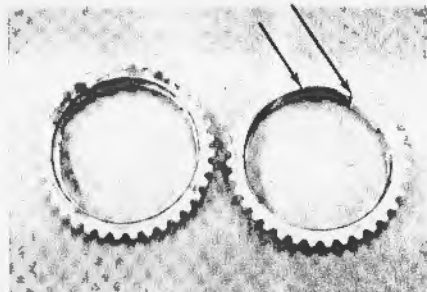

Figure 20 — Blocker ring comparison showing wiping grooves or slot modifications.
The blocker ring thread flats should be .002"-.004" wide which can be checked with an optical scale. All burrs should be removed from the blocking ring chamfers. Add six (6) wiping grooves or slots to inside of diameter of blocker ring using a jewelers file. (Figure 20, page 4-11)